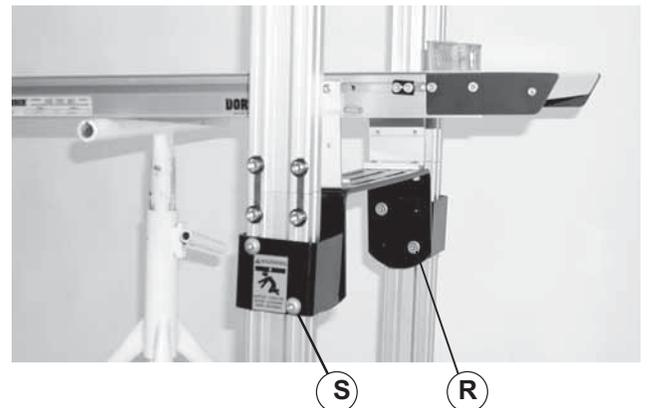

Figure 10
<p>Failure to secure screws (Figure 10, item R and S) may cause conveyor section(s) to drop down causing severe injury.</p> <p>TIGHTEN SCREWS (R and S) AFTER ADJUSTMENT.</p>
15. Tighten four flange socket head screws (Figure 10, item R) to 24 ft-lb (33 N-m).
16. Tighten four button head screws (Figure 10, item S) to 17 ft-lb (22.5 N-m).